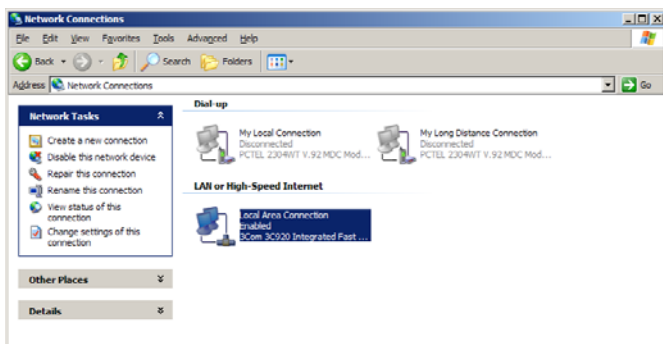

Figure 6-1 LAN or High-speed Internet Connection
3. Highlight the “LAN or High-speed Internet Connection” icon. Select the “Change settings of this connection” option, or right-click and select “Properties.” Refer to Figure 6-1.